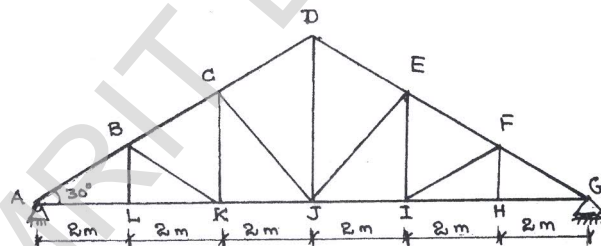

Fig.Q3
- 3 Line diagram of a Howe truss with tabulation of member forces are shown in Fig.Q3. Design various member of roof truss along with their end connections with gusset plate of 10 mm thick, by using M₁₆ bolts of grade 4.60. The truss rests on 300mm × 500mm size column made of M₂₀ grade concrete. Design the support bearing plate, base plate for a reaction of 120 kN and anchor bolts for an uplift force of 18 kN. (40 Marks)